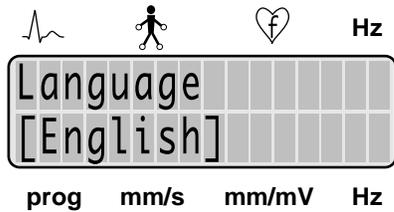

Figure 3-7. Selected language
- Press **setup** to display the language selection menu: Figure 3-7 will appear.